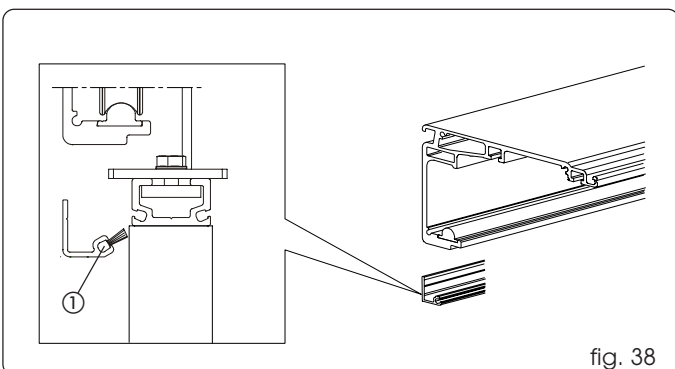

fig. 38
install the closure profile for standard automated systems as shown in fig. 38.
Insert the brush (if supplied) in the closure profile, before installing - fig. 38 ref. ①.